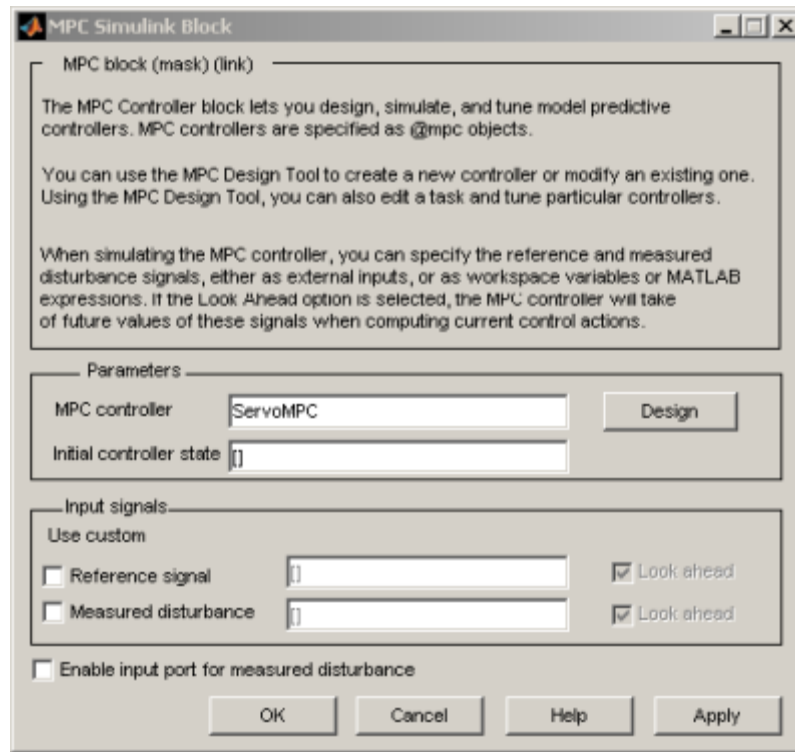

Figure 4-16: MPC Toolbox Simulink Block Dialog
- MPC Controller is from the MPC Blocks library. Figure 4-16 shows the dialog box obtained by double-clicking on this block. You need to supply an MPC object, and `ServoMPC` is being used here. It must be in the Workspace before you run a simulation. The **Design** button opens the design tool, which allows you to create or modify the object. To review how to use commands to create `ServoMPC`, see “Constructing an MPC Object” on page 4-23.